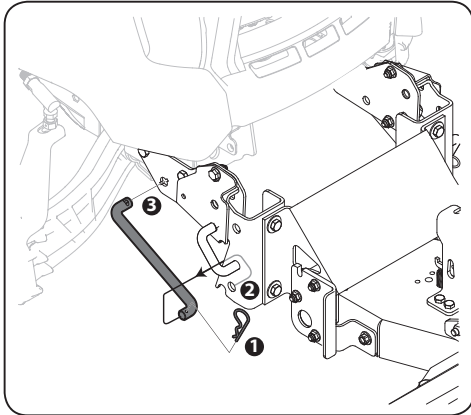

Figure 2-24
4. Remove cotter pins from tie rods (1). See Figure 2-24.
5. Remove tie rod by pushing end of rod through the bracket (2), and then rotating rod to align rod tabs to slot in bracket. Slide rod out of bracket (3). See Figure 2-24.